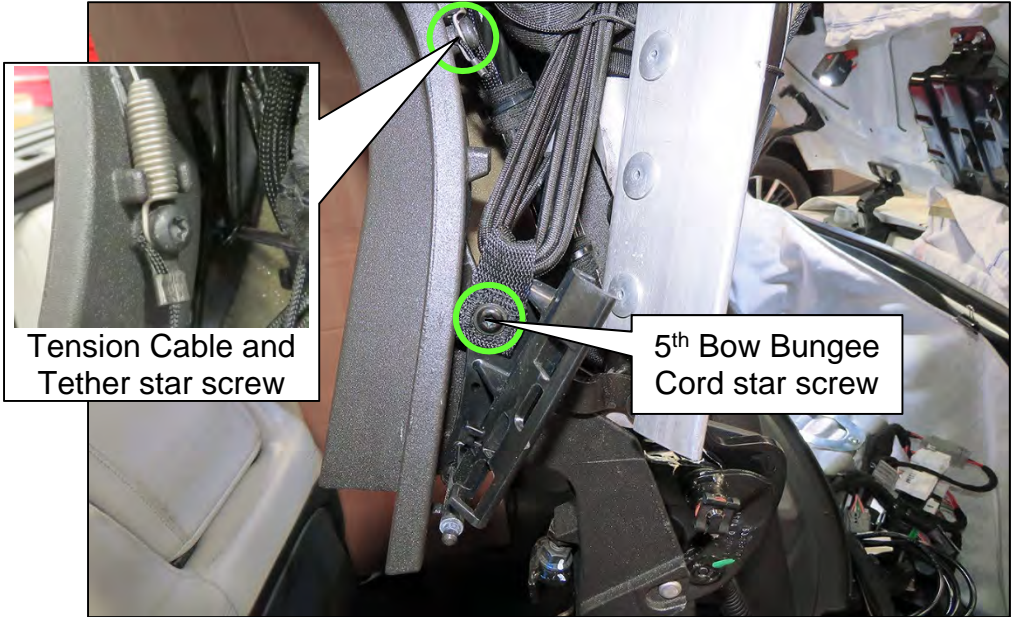

Figure 169
178. Remove one (1) star screw that retains the 5th Bow Bungee Cord (Figure 169).